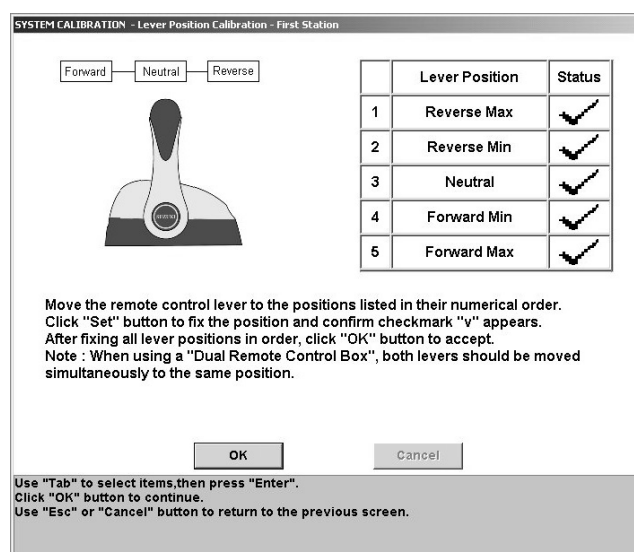

Fig.102
- When all the lever positions have been registered, return the lever to the neutral position. (Fig.102)